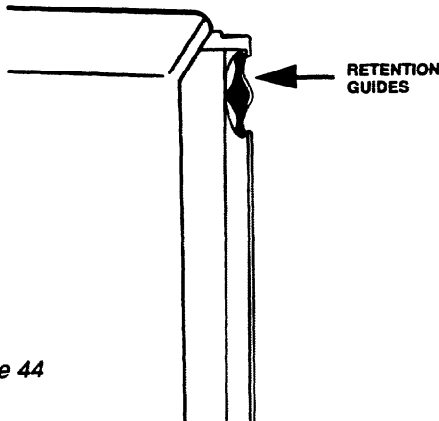

Figure 44
i. Retention glides **must** remain in place to reinstall chiller door. See Figure 44.